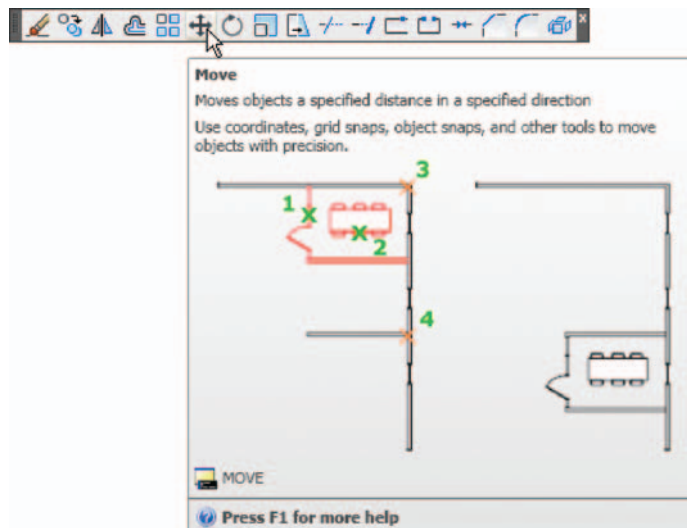

Fig. 5.24 The **Move** tool from the **Home/Modify** toolbar
2. Call **Move** – click the **Move** tool icon in the **Home/Modify** toolbar (Fig. 5.24), *pick Move* from the **Modify** panel, *pick Move* from the **Modify** drop-down menu, or *enter m* or *move* at the command line, which shows: